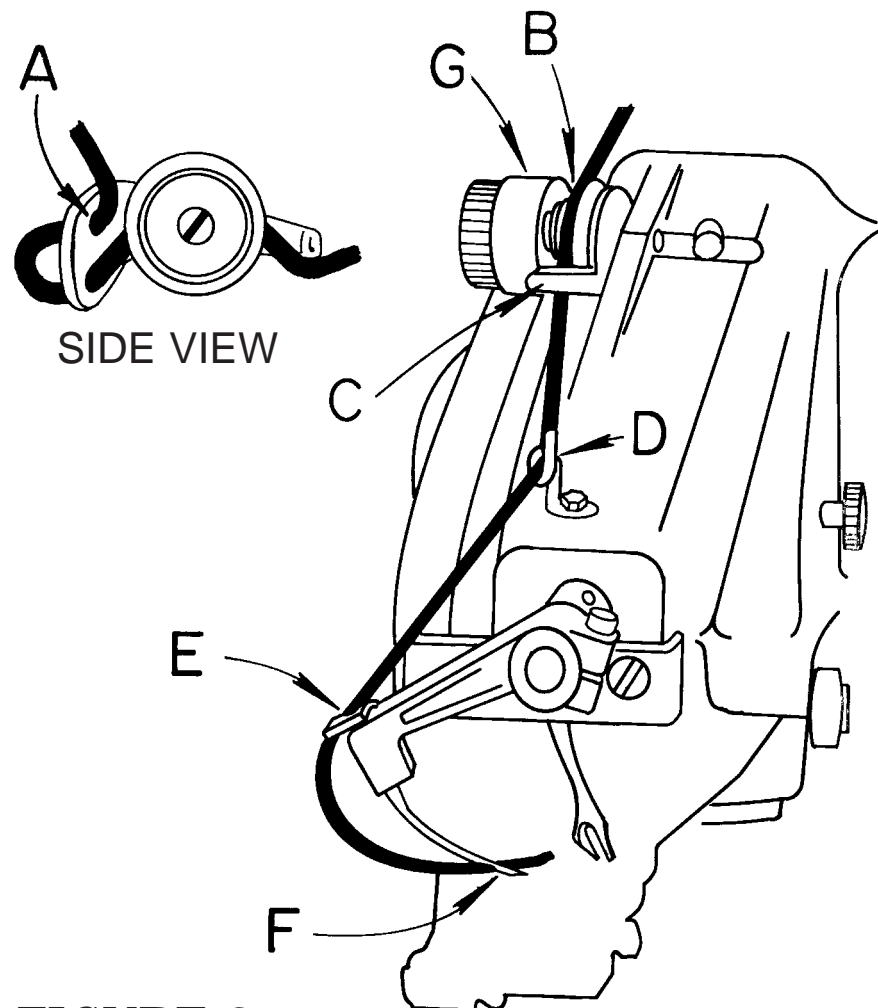

FIGURE 3
3. Referring to the threading chart in **Figure 3**, it can be seen that the threading procedure is a simple one. The thread is passed from front to back through the rear thread guide hole "A". It then slides between the two tension discs "B" and is brought out to the right of the guide arm "C". Carried forward, the thread is passed through the front thread guide "D" and down through the needle clamp guide hole "E". It then is passed through the eye of the needle "F", entering on the underside of the needle and being removed at the top. The thread should be pulled through to extend past the eye of the needle by a few inches.
1. Insufficient thread tension will result in a loose, poorly holding stitch. If the trial run indicates this to be the case, turn the tension nut (*item "G" in Figure 3*) to the right, thus increasing thread tension.